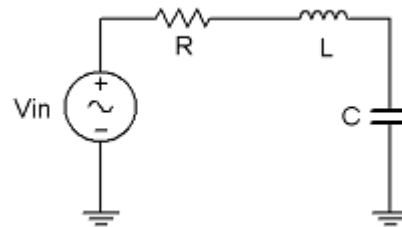

Figure 1
1. Using Figure 1 with  $V_{in}=2V_{p-p}$  sine at 10 kHz,  $R=1k\Omega$ ,  $L=10mH$  and  $C=10nF$ , determine the theoretical inductive and capacitive reactance and circuit impedance, and record the results in Table 1 (the experimental portion of this table will be filled out in step 4). Using the voltage divider rule, compute the resistor, inductor and capacitor voltages and record them in Table 2.
2. Build the circuit of Figure 1 using  $R=1k\Omega$ ,  $L=10mH$  and  $C=10nF$ . Set the generator to a 10 kHz sine wave and  $2 V_{p-p}$ . Using oscilloscope measure the signals. Unfortunately it is impossible to see the voltages of all the three components simultaneously using only two probes of the oscilloscope. To obtain the proper readings, place one probe on the function generator to see the input signal and the second probe across the last element. This step is repeated three times. The first time the components are so arranged that capacitor is the last component, the second time inductor is connected as the last component and finally resistor is made the last component. The peak to peak voltages and phase angles of each one of the three components, relative to the source are thus determined in turn. Thus  $V_{in}$ ,  $V_C$ ,  $V_L$  and  $V_R$  are measured. The phase angle of the last component relative to the source is determined by measuring the time difference ' $t$ ' between the